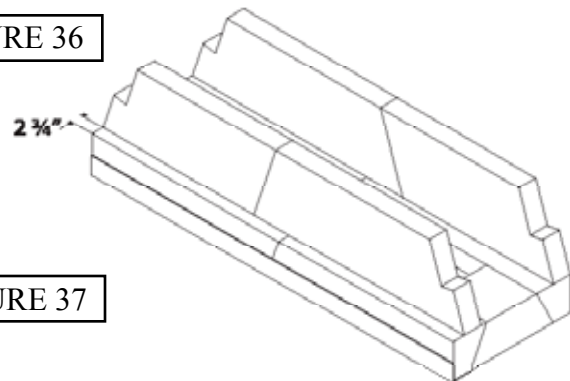

FIGURE 37
**Step 14:** Repeat STEP 13 on the front damper support. Set the front smoke dome components  $2\frac{3}{4}$ " back from the front face of the front damper support (Figure 37).